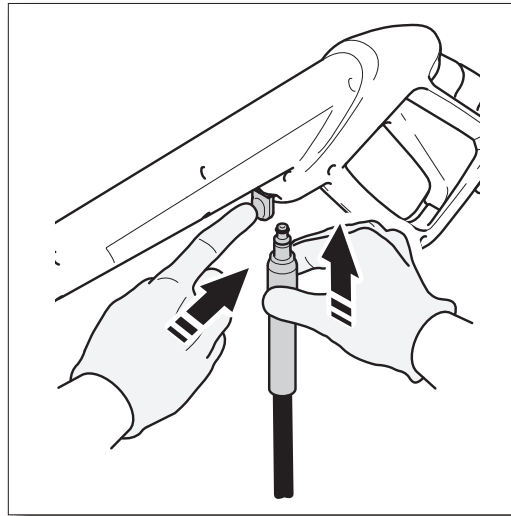

Fig. 5
- Connect the other end of the high pressure hose to the spray gun by inserting the brass metal tip of the high pressure hose into the fitting just ahead of the trigger guard. It will lock into the spray gun with a “click” (**Fig. 5**). Confirm the hose is locked into the spray gun by pulling slightly on the hose. The hose is now securely attached to the spray gun.